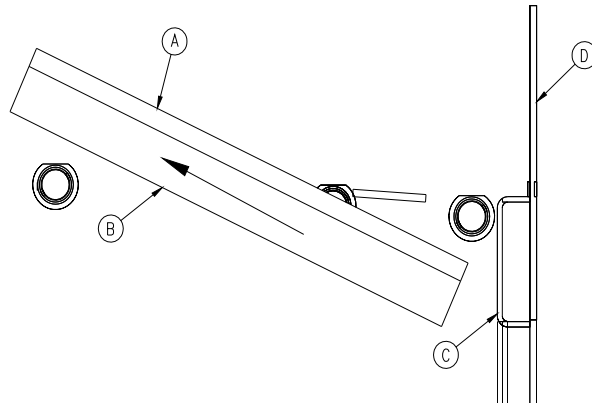

FIGURE 8a
1. Stack the baffle boards (A) on top of the vermiculite boards (B) as shown in Figure 8a.